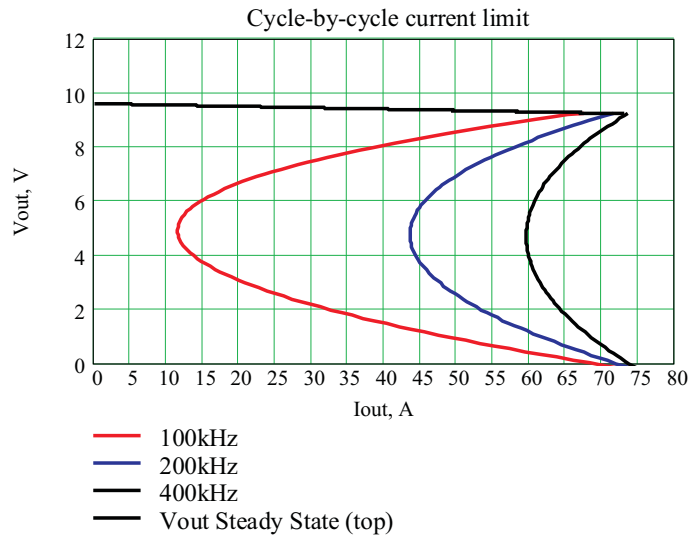

Figure 39. Output Voltage at Cycle-by-Cycle Current Limit
Figure 39 shows the output voltage as function of the average load current limited by the cycle-by-cycle current limit threshold after substituting (9) into (10). These plots are generated for the following conditions:  $V_{IN} = 48\text{ V}$ ,  $N_{TR} = 5$ ,  $L_O = 0.1\text{ }\mu\text{H}$ ,  $L_m = 75\text{ }\mu\text{H}$ ,  $I_{O(lim)} = 73\text{ A}$ ,  $R_{pr} = 25\text{ m}\Omega$  and  $R_{SEC} = 4\text{ m}\Omega$  at  $F_{SW} = 100\text{ kHz}$ ,  $200\text{ kHz}$  and  $400\text{ kHz}$ . This fold back type of behavior limits the start-up capability of unregulated IBC. One can see that at 100-kHz switching frequency and 0.5 duty cycle (i.e.,  $V_O \approx 5\text{ V}$ ), only about 11.5 A average current is available to charge the output capacitor while at 400 kHz, the charge current can be as high as 60 A. The plots in Figure 39 show the required average charge current reflected to the primary side of the converter with  $N_{TR} = 5:1$  for different output capacitor values depending on the selected soft-start time, which do not count extra current drawn by the load itself. Therefore the significant output inductor current ripple not only can trip the peak current mode control current limit circuit to reduce the average output inductor current available to charge the output capacitor, but also can cause the hiccup or latch off of the converter to prevent it from starting at all. Increasing the current limit threshold to allow the normal start up of the converter can cause potential overstress if for some reason the load exceeds its nominal current during the steady state operation.